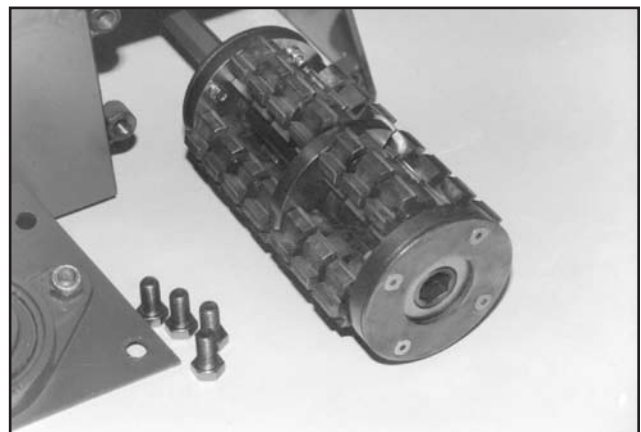

FIGURE 20
4) As the name implies, the tungsten carbide inserts of the milling flail cut the work surface material with an action very similar to that of a machine tool cutting steel. The brittleness of the tungsten carbide insert requires that it be fully supported to minimize breakage. This requires a substantial flail body to provide the necessary support. The resulting configuration makes the milling flail one directional in design. This limitation requires the operator to install a loaded drum on the driveshaft with the tungsten carbide inserts facing the direction of rotation. FIGURE 20. If the tungsten carbide inserts face opposite to the direction of rotation, improper milling action and accelerated flail wear will occur.